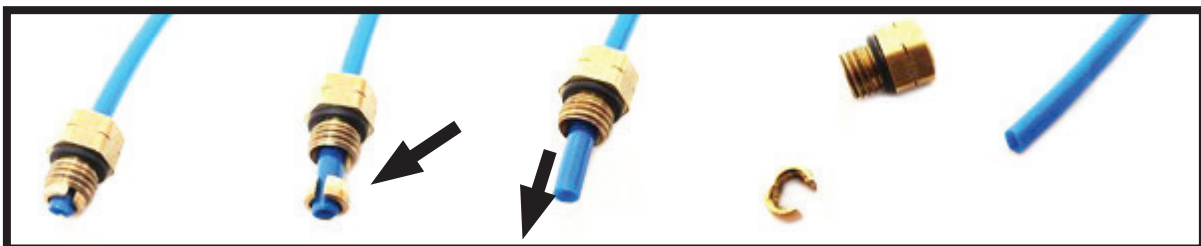

FIGURE 12
6. REMOVE THE AIR LINE FITTING. TO DO SO, SPREAD THE COLLET OPEN AND THE REMAINING FITTING WILL SLIDE OFF OF THE AIR HOSE. (FIGURE 12)